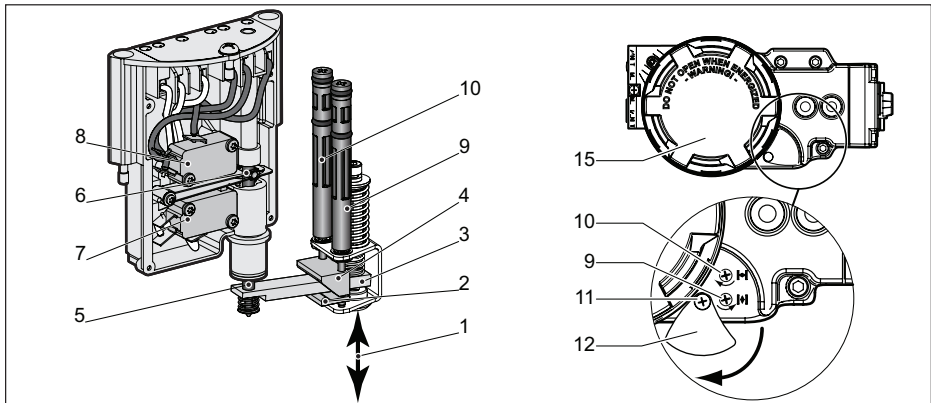

Fig. 5.2 Working principles Switch Operating Mechanism
5.2.3 Working principles Switch Operating Mechanism (see fig 5.2)